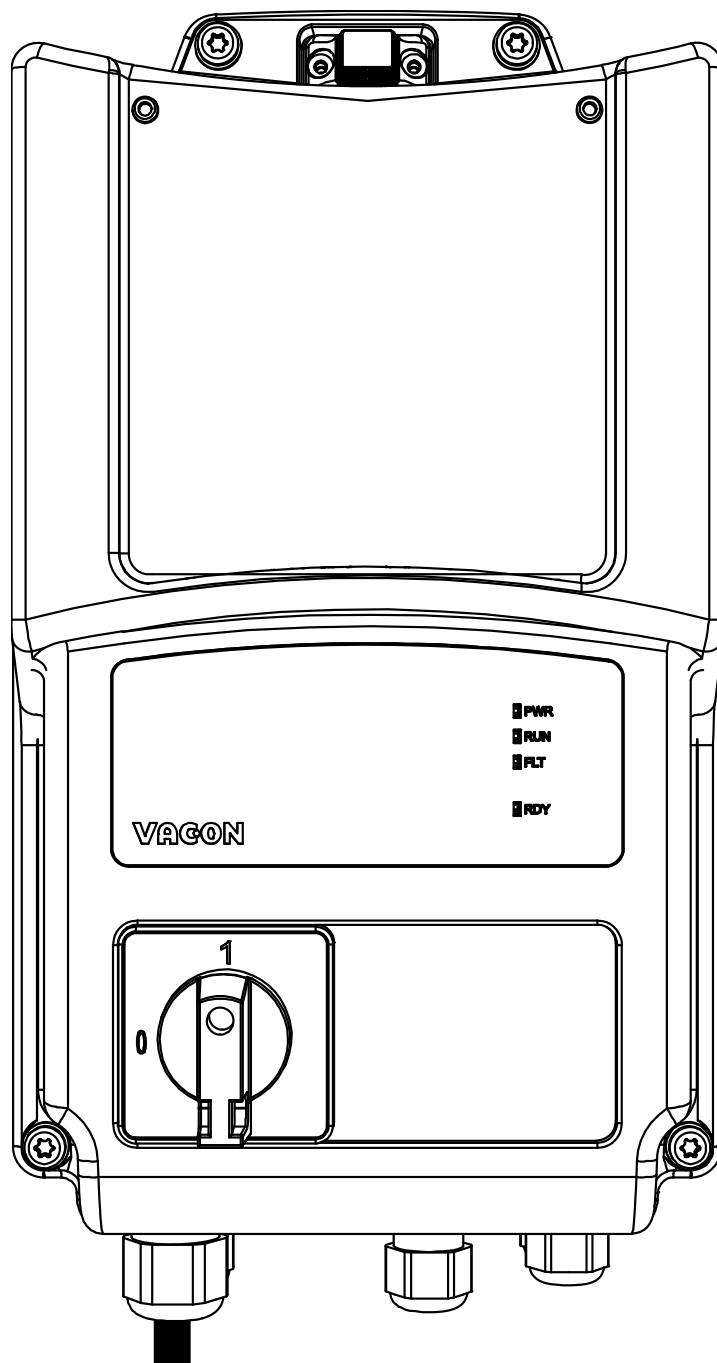

Figure 65. Mount the plastic cover.
- Mount the plastic cover onto the drive with its screws and HMI cap: the installation process has been completed. See Figure 65.